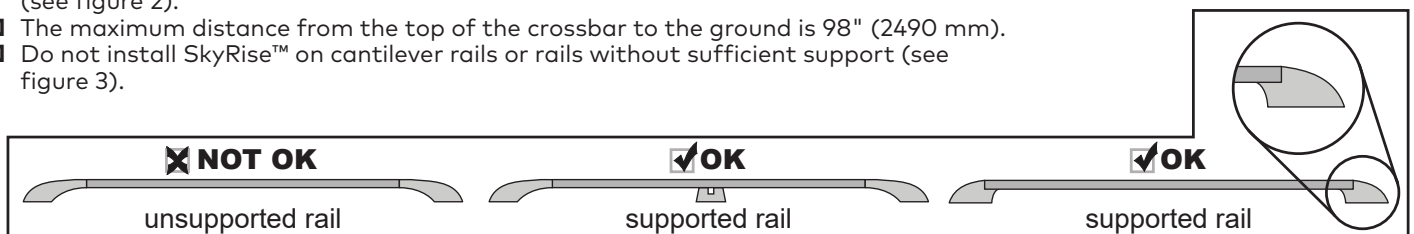

fig. 3
- Do not install SkyRise™ on cantilever rails or rails without sufficient support (see figure 3).